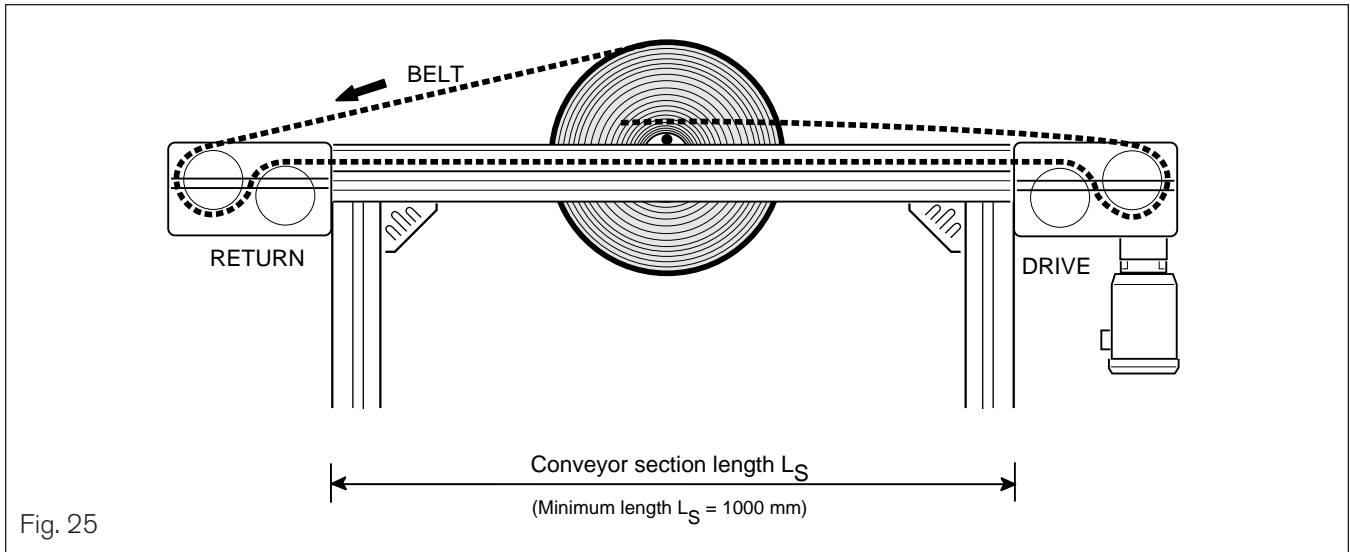

Fig. 25
Fitting the belt (Figs. 25 and 26)
NOTE: The belt is delivered on a roll in the approximate length required for your system, with a maximum length per roll of 100 meters (approximately 325 feet). Make sure to follow the instructions exactly for cutting and welding the belt. See Fig. 25 and Table 1 to calculate the exact length of belt required.
Feeding the belt (Fig. 25, see page 23):
- 3 Suspend the precut roll of belt between the two belt section profiles with a steel rod so that the end of the belt extends toward the return (Fig. 25).
- 6 At the drive module, feed the belt between the two wheels, around the drive wheel, then back up to transport level (Fig. 25). Pull the belt along the conveyor to the roll of belt suspended between the belt sections.